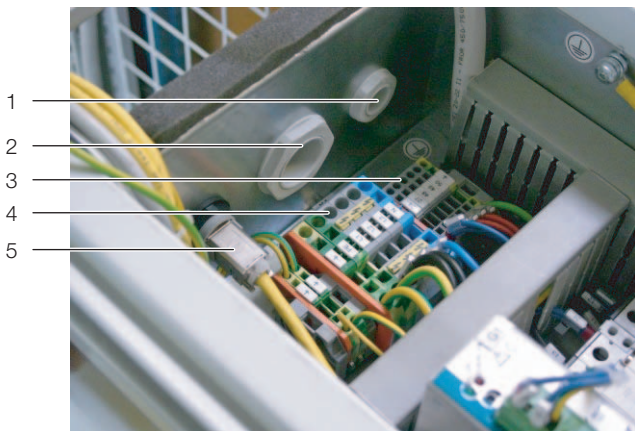

Fig. 25: Connection terminals in the electronics box
- If you wish to switch the LCP DX on and off remotely: In the electronics box, remove the jumper between the two terminals 24 and 27 ("Remote On-Off") and connect a floating remote switch (normally open contact) (fig. 25, item 3). If the two terminals are not jumpered, the status message "Din-Off" will appear in the display.